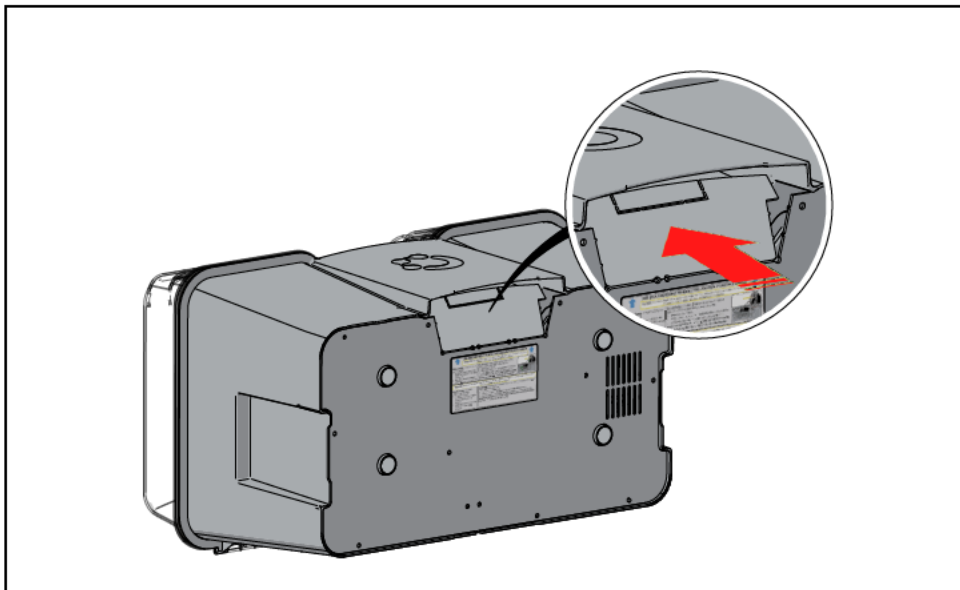

Figure 15 Emergency Access Panel Removal
Step 3: Break open the emergency access panel of the box (shown in Figure 15). This will take effort; keep pressing hard in ward on the cover to break the panel. **Wearing gloves** is recommended.